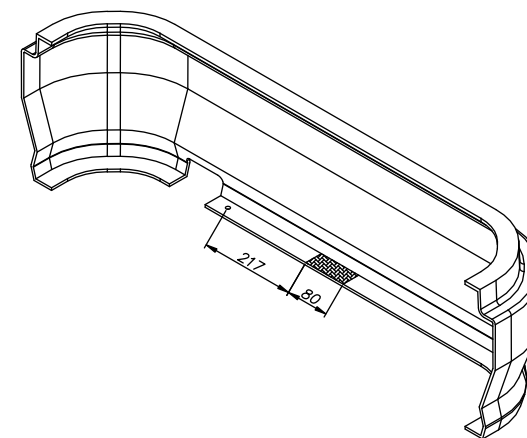

Fig. 2
2. Put main bar of the towbar to the chassis member in this way, so holes of the towbar (pos. A) agree with holes in members and fix using bolts M10x35mm (pos. 4).
3. Reassemble the bumper after cut out its fragment according to fig. 2.
5. Fix body of the automat and place tow-ball according to supplied instruction. Note! Remember to place socket plate (pos. 3) as shown on the drawing 1.